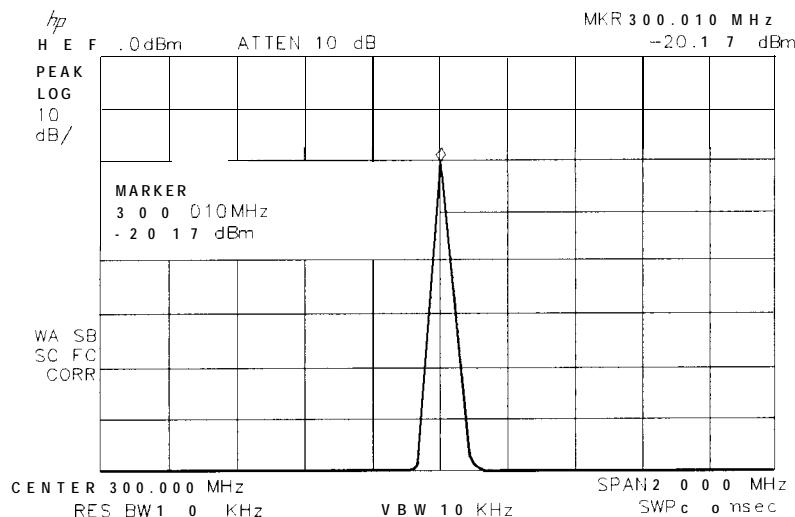

Figure 2-6. Reading the Amplitude and Frequency
5. Determine the amplitude and frequency of the signal. You can either press (PEAK SEARCH) or press (MKR) and move the marker to the signal peak. Read the amplitude and frequency. The display screen should look like the one in Figure 2-6. Frequency is displayed horizontally, and amplitude (power) is displayed vertically.